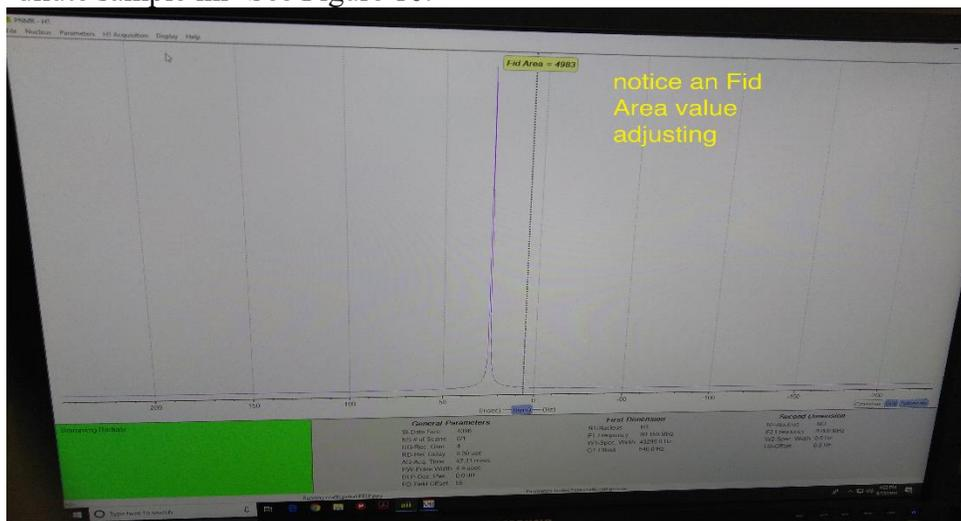

Figure 10. aii screen to select ‘dilute sample ini’
- 11) On the aii program screen from the top-down menu, click ‘parameters’ and select ‘dilute sample ini’ See Figure 10.